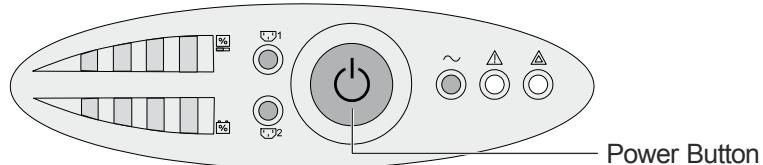

Figure 237 Power Button on the Front Panel of the 1550 Evolution Battery Backup Unit
2. Verify that the Power button (on the front panel of the Battery Backup Unit, as shown in Figure 237) is not lit.